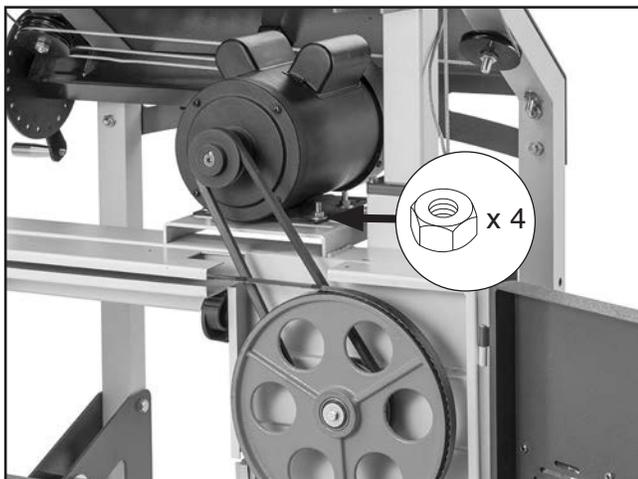

Figure 103. Location of motor mounting hex nuts.
6. Loosen (4) motor mounting hex nuts (see **Figure 103**).